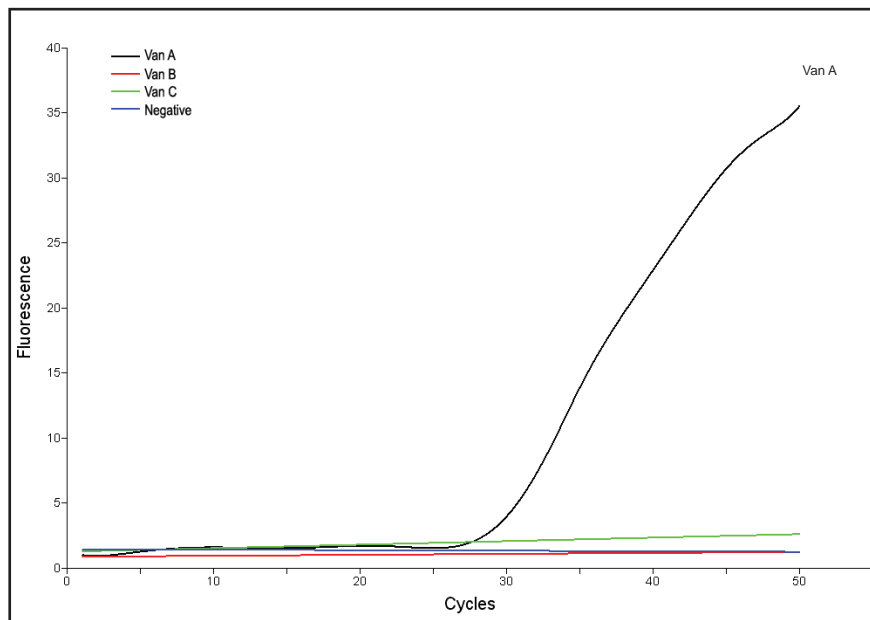

Figure 1. Real-time graph of *Van A* positive sample.
8. Representative real-time PCR results are shown in Figures 1, 2 and 3.